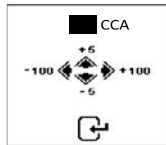

Fig.21
11. To adjust the CCA value, press ◀ or ▶ key will increase or decrease the value by 100 while ▲ or ▼ key will increase or decrease the value by 5 as shown in Fig.21 below.